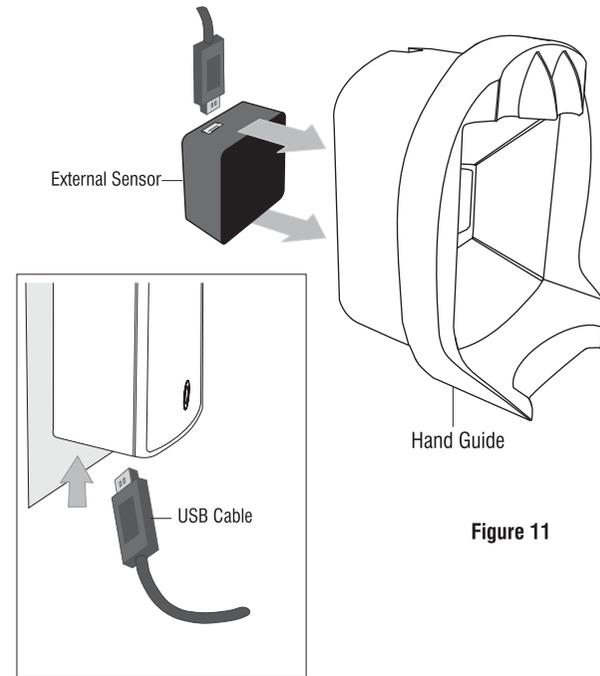

Figure 11
- Connect the external sensor to the COSEC Door PVR ES using the USB cable provided in the package contents (figure 11).
- With the finger and wrist guides facing you, insert the sensor into the square slot provided on the reverse side of the hand guide (figure 11).